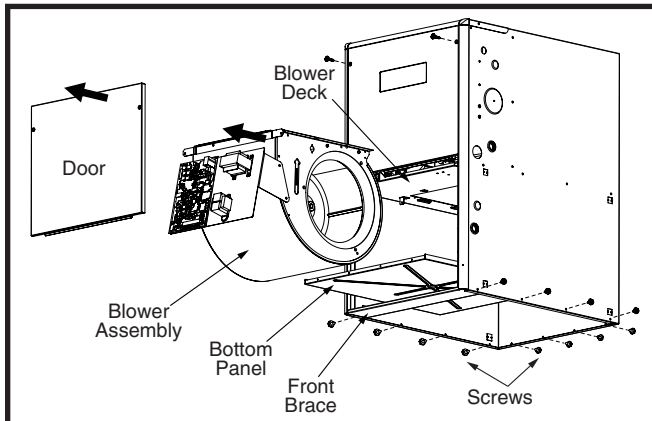

Figure 16. Bottom Panel Removal
- If the size of the PVC flue needs to be increased from 2" to 3", two, 2" x 45° PVC elbows may be used to achieve the clearances needed between the coil box and the 2" x 3" coupling. See Figure 16.